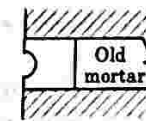

Fig. 5.20.4. Rubbed pointing.
- i. In this type of pointing, a groove is formed at the centre of height by a pointer as shown in Fig. 5.20.4.